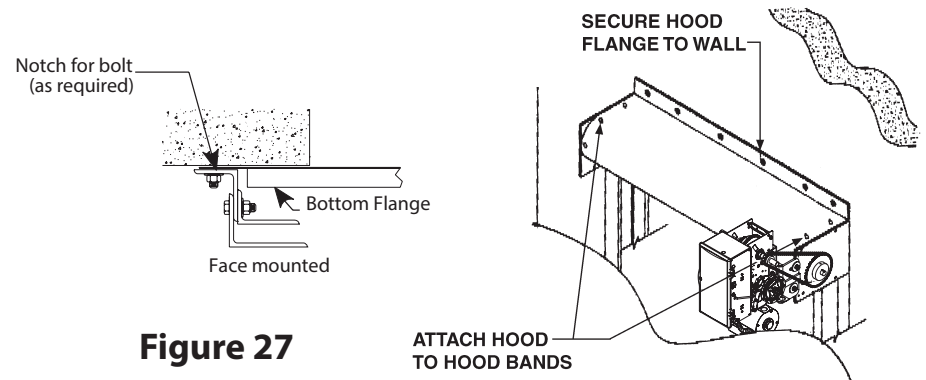

Figure 27
- Attach the hood to the hood band on headplate bracket by drilling a 7/32" hole through the hood and band. Then secure hood with 1/4" tapping screw, maximum length 7/16". Longer screws can prevent door closing. Use four screws per bracket. See Figure 27.
- Attach the hood to hood bands and hood support with 1/4" dia. by 3/8" long tapping screws; longer screws may prevent door closure. Use four screws on each hood band and support. See Figure 27.